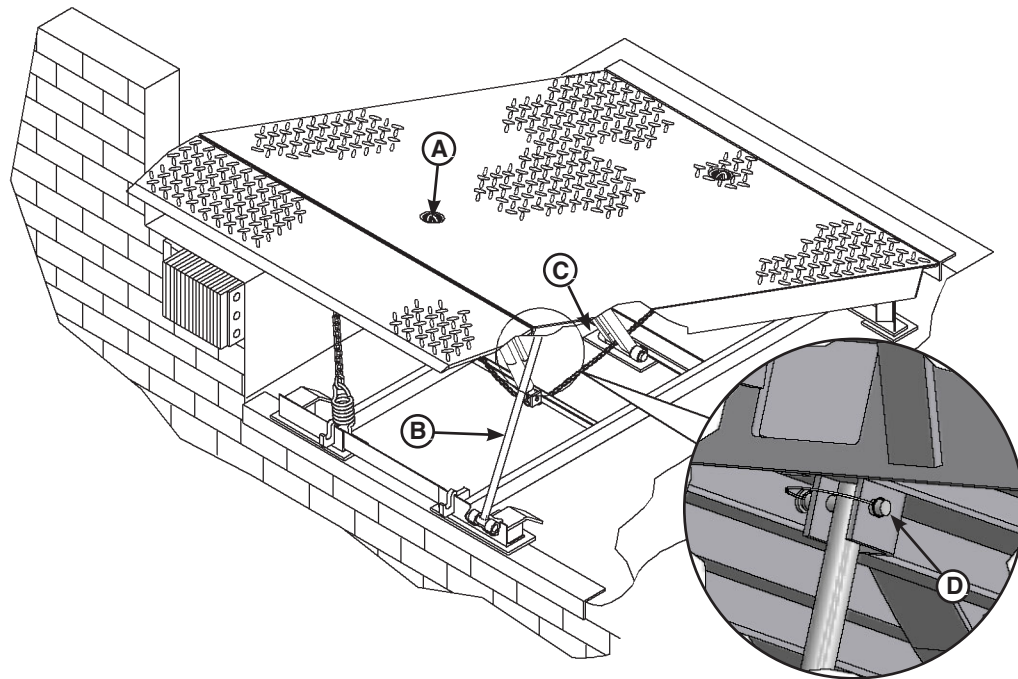

Figure 10
19. Pull the release ring to raise platform. Engage the platform maintenance prop (B) in the service (upright) position and lock the maintenance prop at this position using an OSHA approved locking device (D). Engage lip maintenance prop (Figure 10).